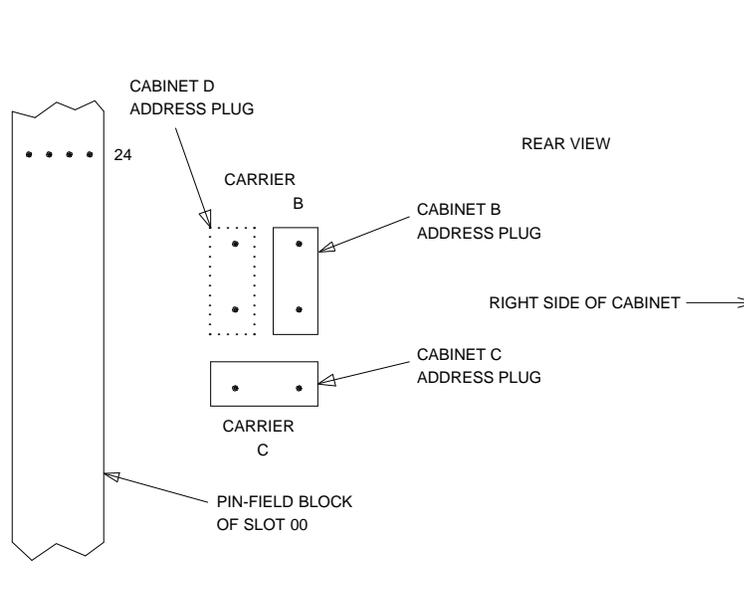
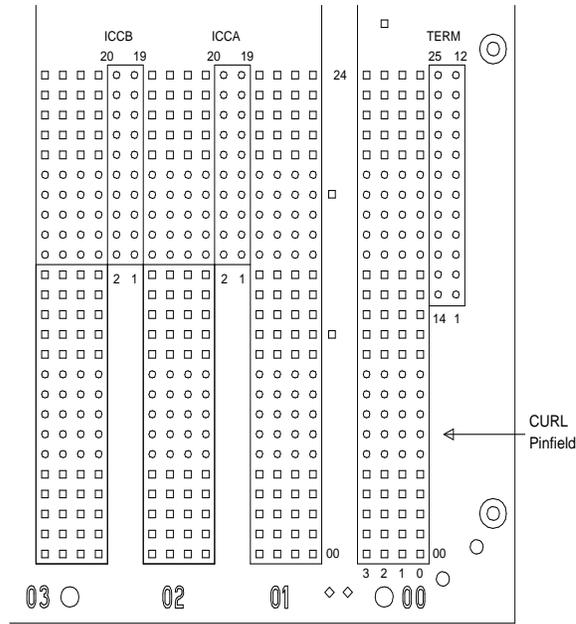
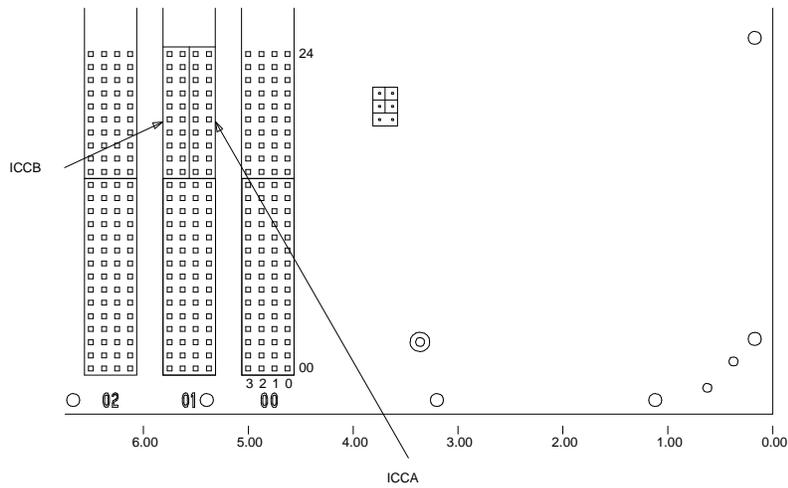

Figure 3-6. Cabinet Address-Plug Location
Figure 3-9. ICC Pin-Field Blocks on J58890N Expansion Control Cabinet
Figure 3-10. ICC Pin-Field Blocks on J58890H Port Cabinet
If a duplicated control cabinet was removed from position "B" and was not replaced with a new port cabinet, the upgraded EPN's port cabinets occupy different positions in the cabinet stack. If so, the location of each port cabinet's address plug must be changed to reflect the cabinet's current position (see Figure 3-6).
2. See NOTE. Connect the ICC cables as shown in Table 3-6 and Figure 3-9 and Figure 3-10, only if critical reliability system.
3. On the "A" carrier, verify the CFY1 current limiter (CURL) is connected to pin-field block "00" (see Figure 3-9). Note the position in Figure 3-6.